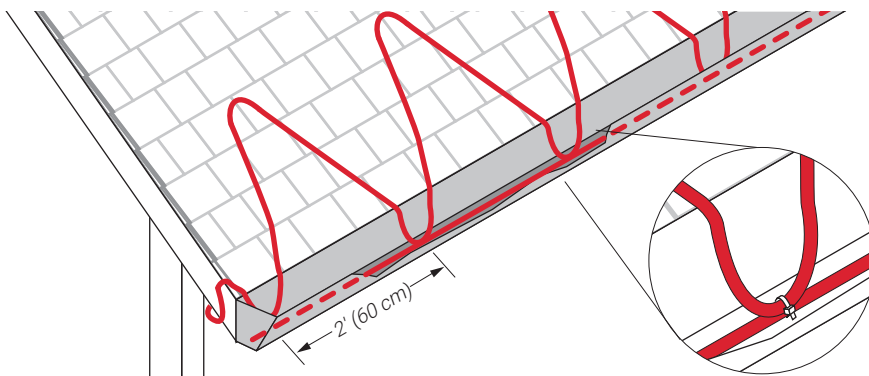

Fig. 7 Layout in a zig-zag pattern
For sloped roofs, ice dams may form at the roof edge. To maintain a continuous path for melt water runoff, route the heating cable in a zig-zag pattern as shown in Fig. 7 and follow the appropriate attachment recommendations in "Step 6 Select attachment accessories and method". Additional heating cable may be needed for other gutters, downspouts, and valleys.
- Install the heating cable on the roof in a zig-zag pattern as shown in Fig. 7.
Note: Attachment methods are not shown in Fig. 7. For attachment methods, proceed to "Step 6 Select attachment accessories and method" on page 115.